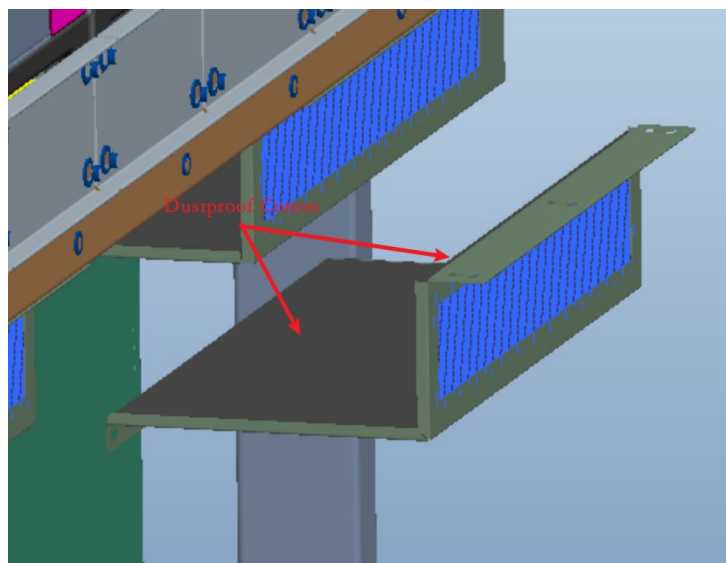

Figure 4-5 Installation location of dust-proof cotton
7. Remove the dust proof cotton from the inside of the removed baffle for cleaning and replacement. After completion, install the dust proof cotton on the inside of the baffle. Finally, install the baffle in its original position (The dustproof cotton can be replaced according to the situation if it has been in operation for 3~5 years), as shown in Figure 4-5 below;